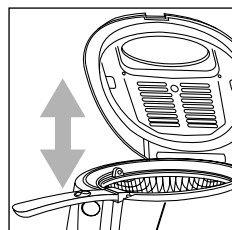

fig. 3
- Remove the basket by pulling it upwards (fig.3).
2. Put the basket into the boiler pan in a raised position (fig.3) and close the lid by pressing lightly down upon it until the hooks click. Always close the lid before lowering the basket in order to avoid hot oil from splashing out.